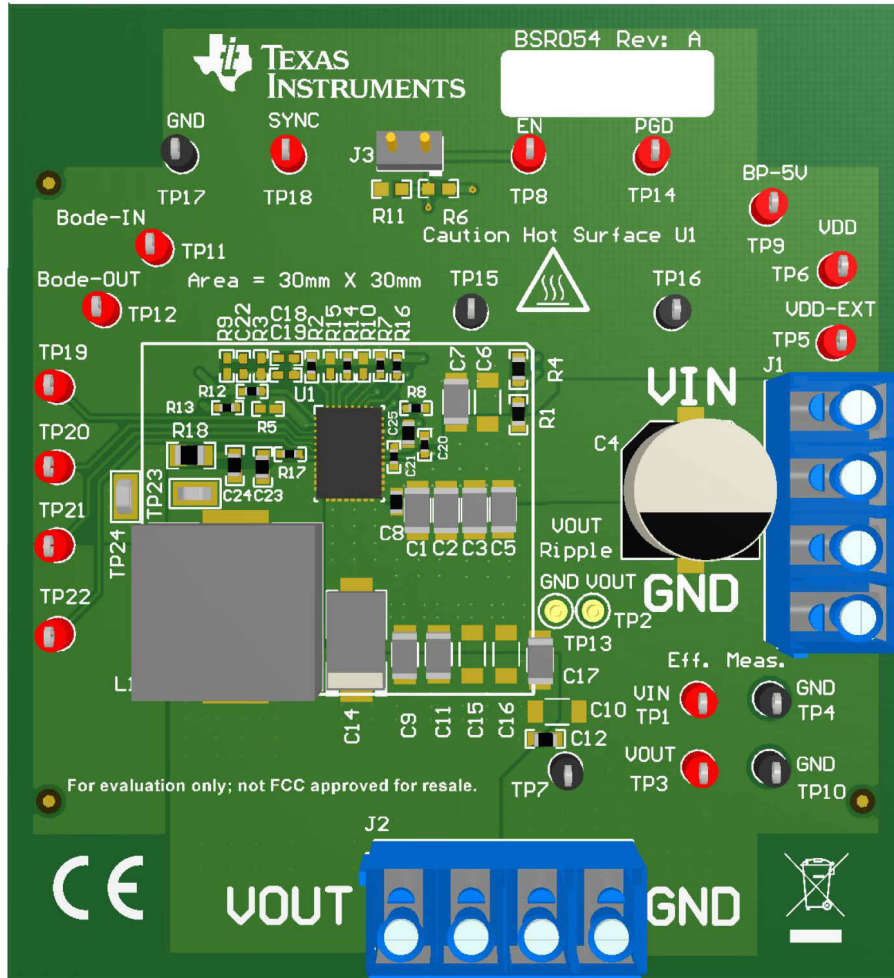

Figure 6-1. BSR054EVM Overview
Multimeters: It is recommended to use two separate multimeters Figure 6-1. One meter is used to measure V_{IN} and one to measure V_{OUT} .
Output Load: A variable electronic load is recommended for testing Figure 6-1. It must be capable of 40 A at voltages as low as 0.6 V.
1. Connect V_{OUT} to J2 and V_{OUT_GND} to J2 Figure 6-1.
4. Connect V_{IN} to J1 and V_{IN_GND} to J1 Figure 6-1.